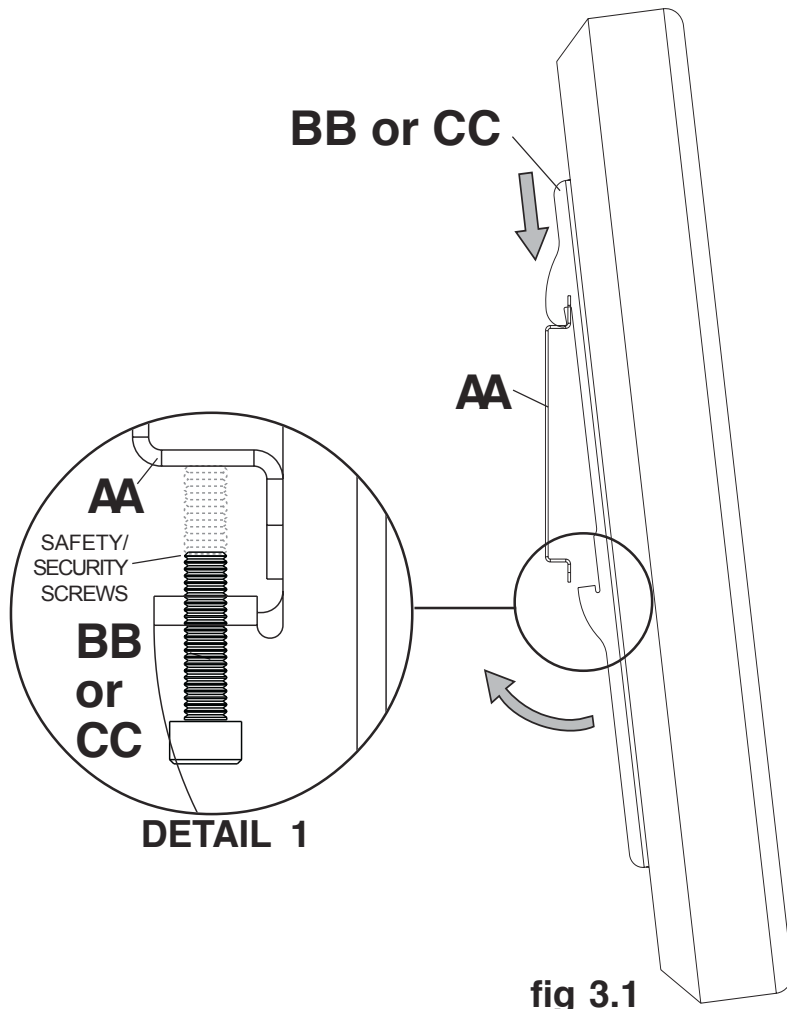

fig 3.1
- 3** Hook adapter brackets (**BB or CC**) onto wall plate (**AA**). Then slowly swing screen in as shown. Turn safety/security screws, using security allen wrench (**FF**), clockwise at least six times to prevent screen from being removed as shown in detail 1 of figure 3.1.